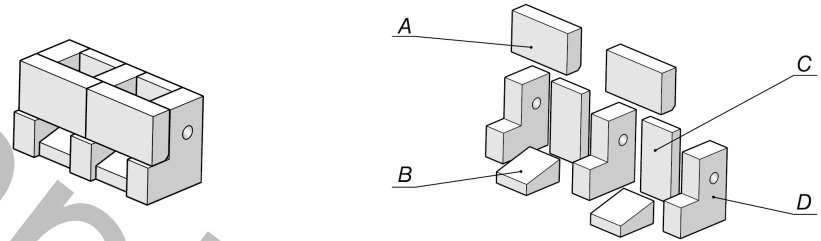

Fig. 5 Firestone brick combustion chamber construction.
Through front door (22 and 24) into secondary combustion chamber (13) insert the side and the central bricks (D) (see fig.5). Place rear bricks (C) and bottom bricks (B) into the spaces. Lastly, put frontal bricks (A) onto the side and the central brick edges (recess down, towards inside of combustion chamber).